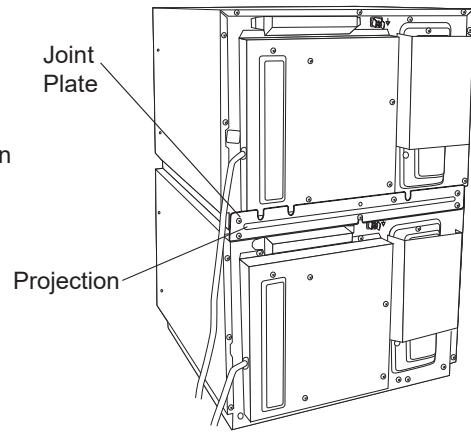

Fig. 2
4. Attach and tighten five screws **(a)** and the screw **(b)**. See Fig. 2.